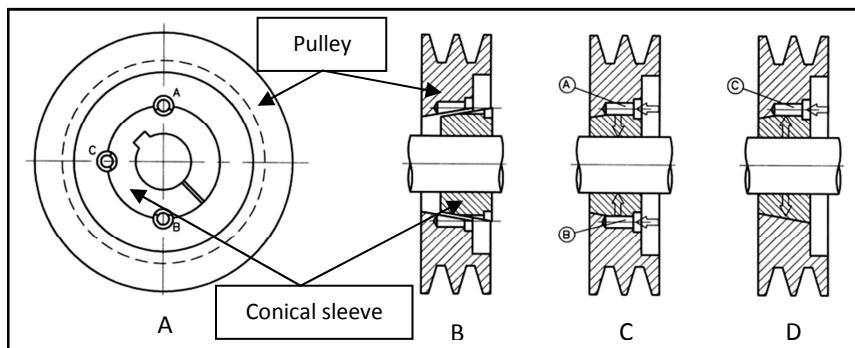

Figure 15 Scheme for the mounting of a pulley with conical socket.
To help both in understanding that into the carrying out the operations referred to in this section see Figure 15.
- PLACE THE SCREWS "A" AND "B" WITHOUT TIGHTENING, figure 15, Detail "A";
- FIT THE PULLEY AND THE CONICAL SLEEVE SET ON THE SHAFT, figure 15, Detail "B";
- FULLY TIGHTEN THE SCREWS "A" AND "B", figure 15, Detail "C";
- REMOVE THE SCREWS "A" AND "B" FROM THEIR SITE, Figure 15, Detail "A";
- REMOVE THE SCREWS IN C, Figure 15, Detail "A", TILL WHEN THE HUB IS LOOSENERD;;
- REMOVE THE PULLEY AND THE CONICAL SLEEVE, Figure 15, Detail "D", TAKING CARE TO NOT LET FALL THE CONICAL SLEEVE;